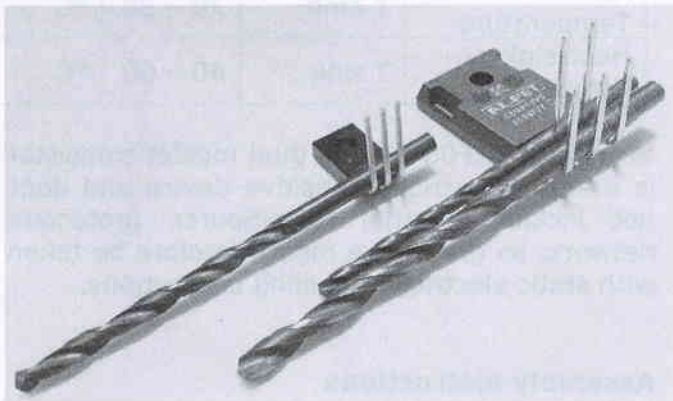

Fig.1 ALF and KSA/KSC pin leads bending
diameter drill, ensuring rounded curving of the bent pin leads (Fig.1). Check proper pins to mounting hole distance by inserting each transistor onto PCB positioned from the bottom side, as mounting hole of transistor should be aligned with the 3,5 mm diameter mounting hole of the PCB. Readjust pin leads if necessary.
3. Output mosfet transistor T7 (ALF08NP16V5) pin leads should also be bent 90° upwards (in direction to the labeled text print side) by the support of 2,5 mm and 3,5 mm diameter drills. First bent pin leads 2 and 4 around 2,5 mm drill and then bent pin leads 1, 3 and 5 around 3,5 mm drill (Fig.1). In this way all pin leads are at proper distance from transistor's case, which can be visually checked by inserting ALF transistor onto PCB positioned from the bottom side and by observing mounting holes alignment. Readjust pin leads if necessary.